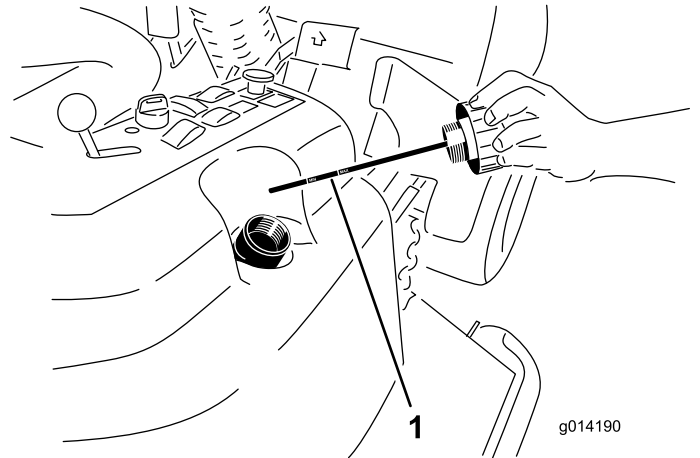

Figure 88
4. Remove the hydraulic-filler cap (Figure 88) from the filler neck.
5. Remove the dipstick and wipe it with a clean rag (Figure 88).
6. Screw the dipstick all the way into the filler neck; then remove it, and check the level of the fluid (Figure 88).